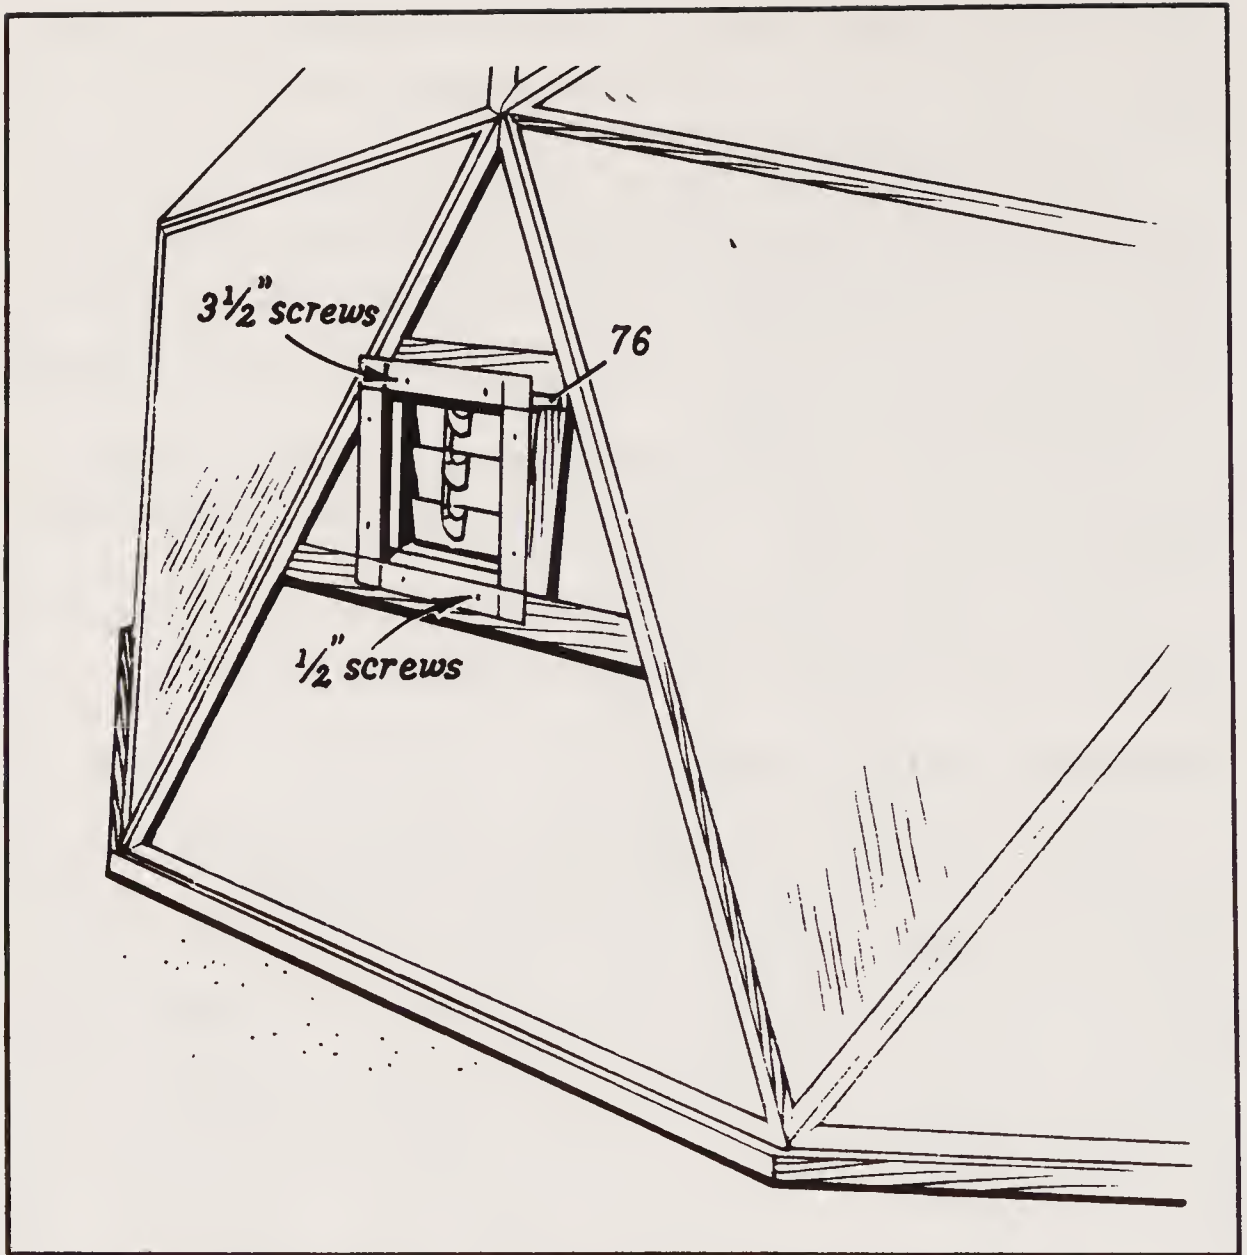

Fig. 2-90. Detail vent shutter (courtesy of Peter Reimuller Co.).
**Vent Shutters.** With a sharp knife, and working from the outside, cut out fiberglass flush with inside opening of the accessory frame in the triangle. From the outside of the greenhouse, place the inlet shutter's through this opening. Use the #76 spacer block to space the shutters away from the opening at the top of the framework with the wide side of the block placed on the top of the inlet frame (Fig. 2-90). Attach the shutters at the top with two 3½" round head screws over the top of the spacer block. Use two ½" screws to secure the shutter frame at the bottom. The shutters open automatically to the inside when the fan is running.